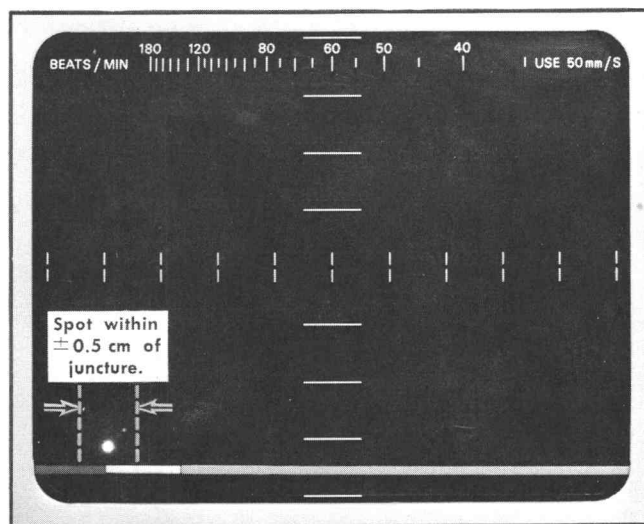

Fig. 5-8. Typical CRT display when checking Battery Check Cal.
d. CHECK—Spot is positioned to the junction of the red and yellow zones on the scale within 0.5 cm to right or left. See Fig. 5-8.